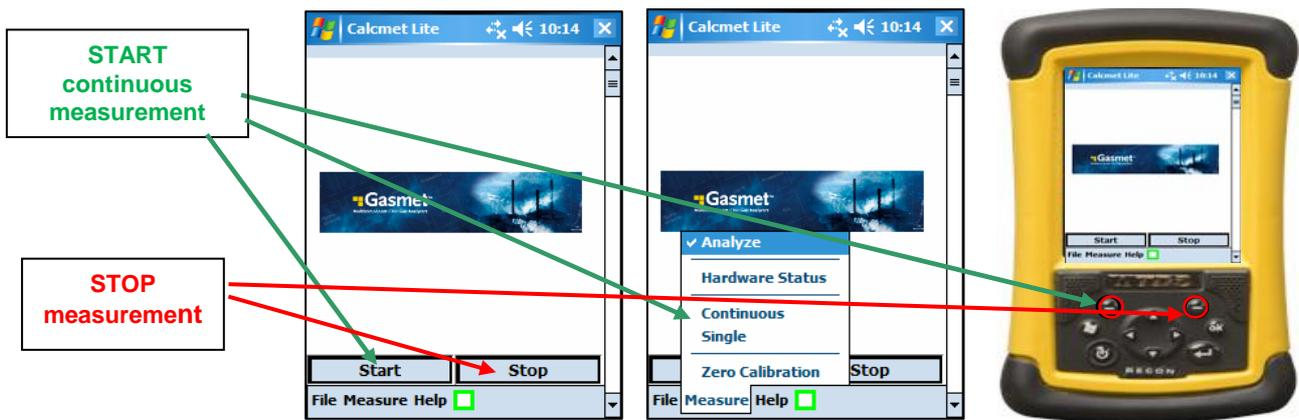

Figure 19. START - STOP measurement.
The actual measurement can be initiated by pushing the START button on the PDA display, which will begin a continuous measurement cycle (Figure 19). For example, when using a five (5) second measurement time, results (or sample spectra) will be updated every 5 seconds. It is also possible to initiate a continuous measurement by selecting Measure → Continuous. The last way to start continuous measurement is to push the upper left button on the PDA keypad (option available with TDS Recon). A single measurement can be triggered by going at Measure → Single.